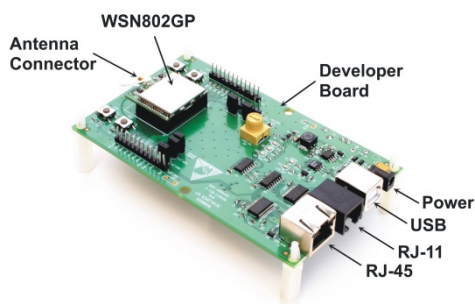

Figure 8.3.1
1. Observe ESD precautions when handling the WSN802GDK/WSN802GADK developer board. Referring to Figures 8.3.1 and 8.3.2, install the patch antenna on the WSN802GDK developer board antenna connector. The antenna “snaps” onto the connector with moderate pressure. The patch antenna is not required for the WSN802GADK developer board.
2. Install an AC plug on the 9 V developer board power supply. Plug the power supply cable into the developer board power connector as shown Figure 8.3.1, and plug the 9 V power supply into AC.